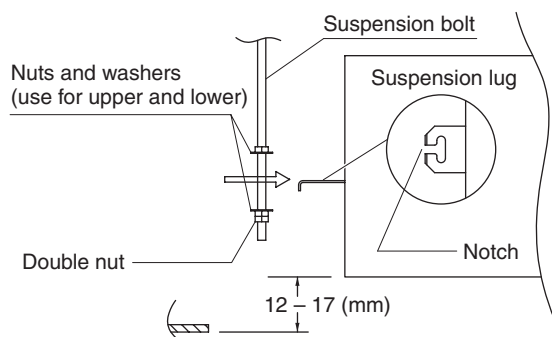

Fig. 2-33
- (3) Thread the 3 hexagonal nuts and 2 washers (field supply) onto each of the 4 suspension bolts as shown in Fig. 2-33. Use 1 nut and 1 washer for the upper side, and 2 nuts and 1 washer for the lower side, so that the unit will not fall off the suspension lugs.
- (4) Adjust so that the distance between the unit and the ceiling bottom is 12 to 17 mm. Tighten the nuts on the upper side and lower side of the suspension lug.
- (5) Remove the protective polyethylene used to protect the fan parts during transport.
- (6) Check with a tape measure or carpenter's level.